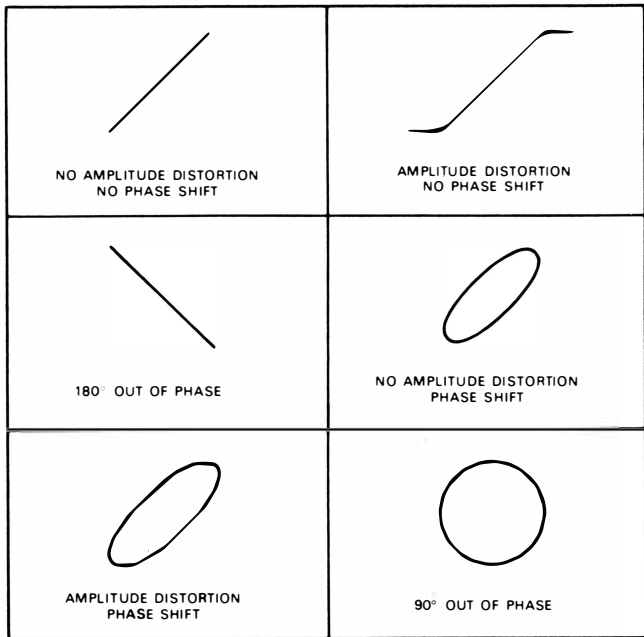
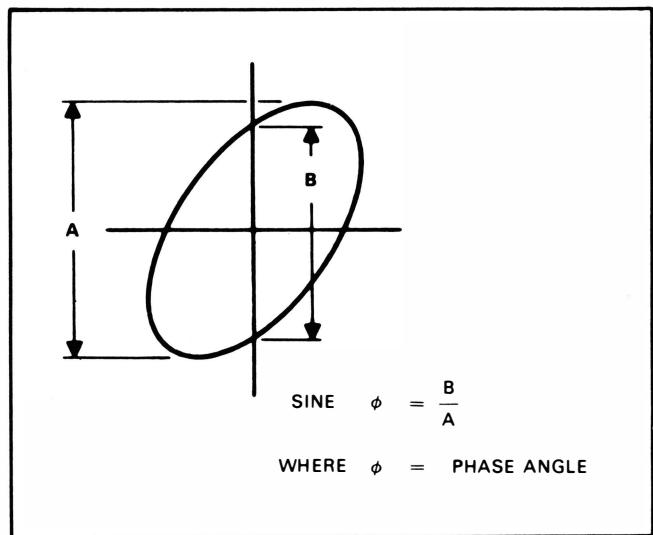

Fig. 30 Typical phase measurement oscilloscope displays
Fig. 31 Phase shift calculation
7. Some typical results are shown in Fig. 30. If the two signals are in phase, the oscilloscope trace is a straight diagonal line. If the vertical and a horizontal gain are properly adjusted, this line is at a 45° angle. A 90° phase shift produces a circular oscilloscope pattern. Phase shift of less (or more) than 90° produces an elliptical oscilloscope pattern. The amount of phase shift can be calculated from the oscilloscope trace as shown in fig. 31.